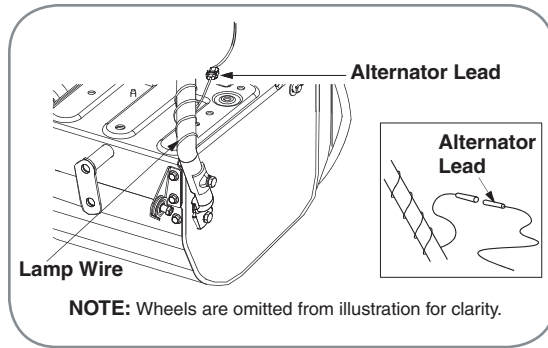

Figure 8
- Wrap the wire from the head lamp down the right handle until the wire can be plugged into the alternator lead wire under the fuel tank. See Figure 8.